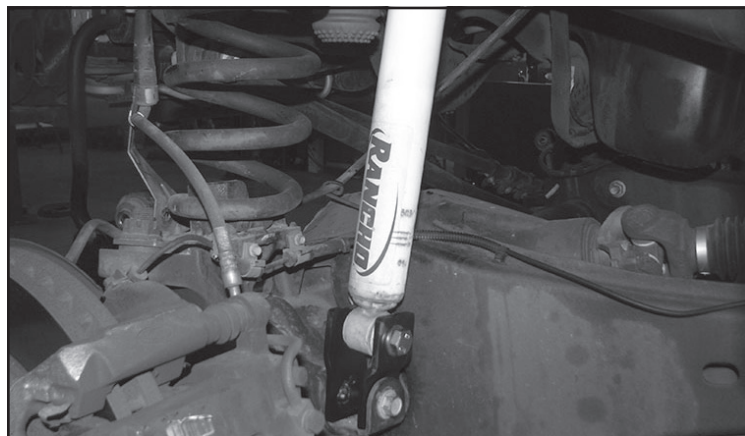

FIGURE 9 - STEP 10
10. Locate the supplied M14-2.0x80mm HEX bolts, washers and nuts. Re-install the factory shock using the supplied M14 hardware. Torque the lower shock bolt to 160 ft-lbs. And the upper shock mount 58 ft-lbs. **SEE FIGURE 9**